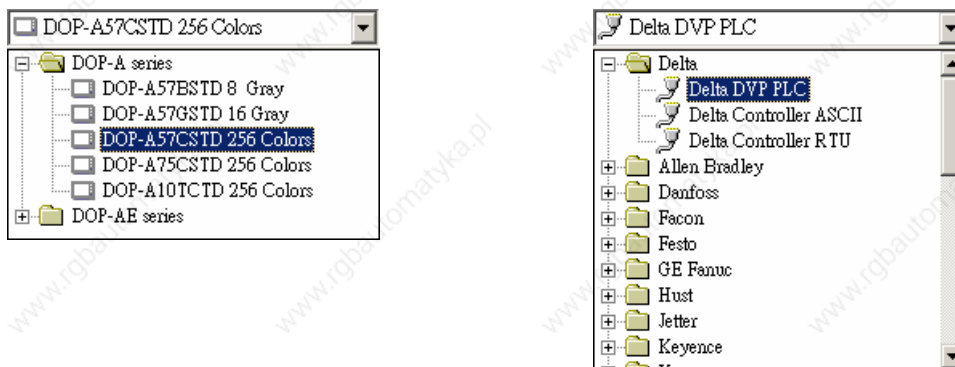

Fig. 2.3.6 HMI model and base port controller options
3. Input application name, screen name, select HMI model and connecting base port controller (Fig. 2.3.6), and then press **OK** button.